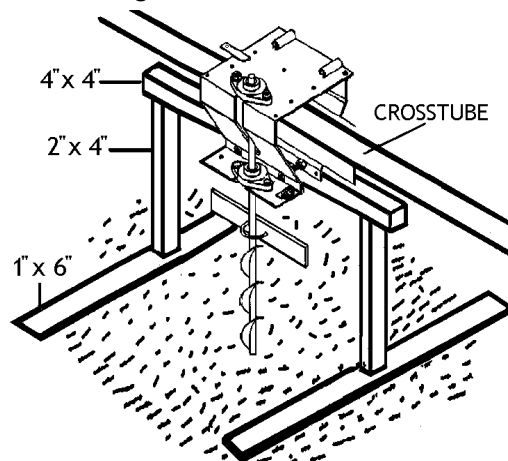

Figure 41 - Carriage Support Setup During Machine Restart
- 1 Support carriages and prevent distortion of crosstube by setting boards on top of grain as shown in **Figure 41**.